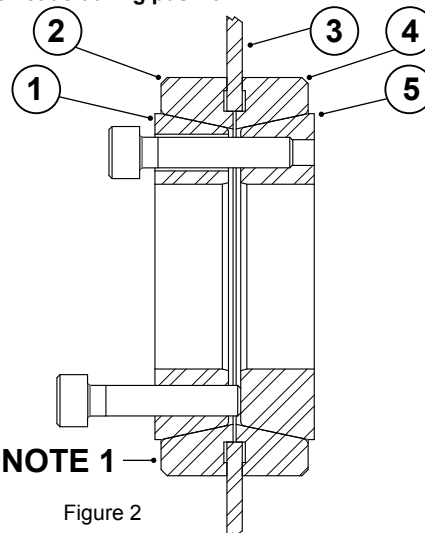

Figure 2
(Refer to Figure 2)
4. Grind a chamfer on the ends of the two screws. Transfer these screws into the push-off threads of front inner ring (item 1) (see Figure 2).